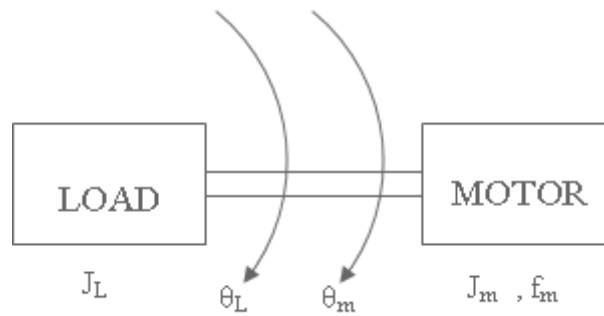

Figure 9
- A motor is connected to a load through a shaft having spring constant K. Write system equations for the figure 9. [8+8]